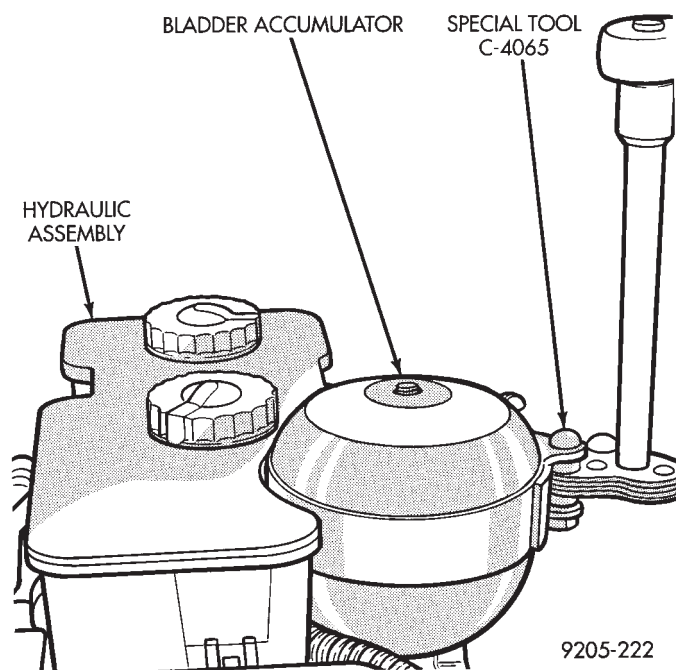

Fig. 16 Remove And Install Bladder Accumulator
(2) Using Oil Filter Band Wrench, Special Tool C-4065 or equivalent loosen bladder accumulator. Then remove the bladder accumulator and brake fluid shield from the hydraulic assembly (Fig. 16).
(2) Install the bladder accumulator onto the hydraulic assembly by hand. Be sure that the O-Ring on the bladder accumulator is fully seated into the hydraulic assembly.
(3) Using Oil Filter Band Wrench, Special Tool C-4065 or equivalent, (Fig. 16) torque the bladder accumulator to 48 N•m (35 ft. lbs.).